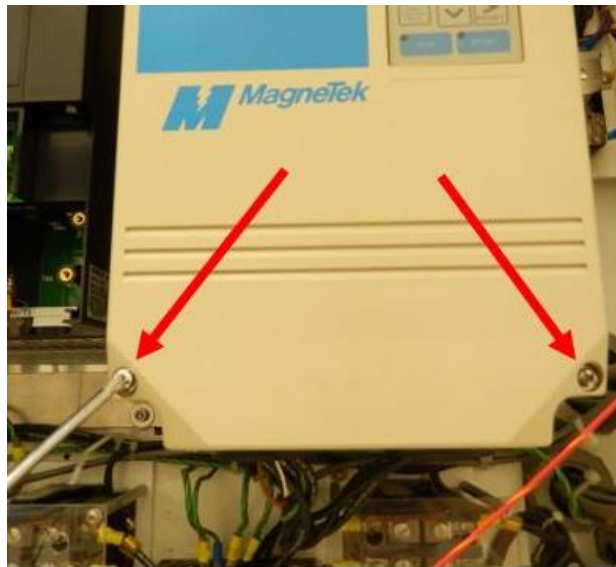

Figure 2: Location of Cover Screws
6.2.1 **Remove** cover from GPD 503 driver in order to access conductors. See *Figure 2* for location of cover screws.